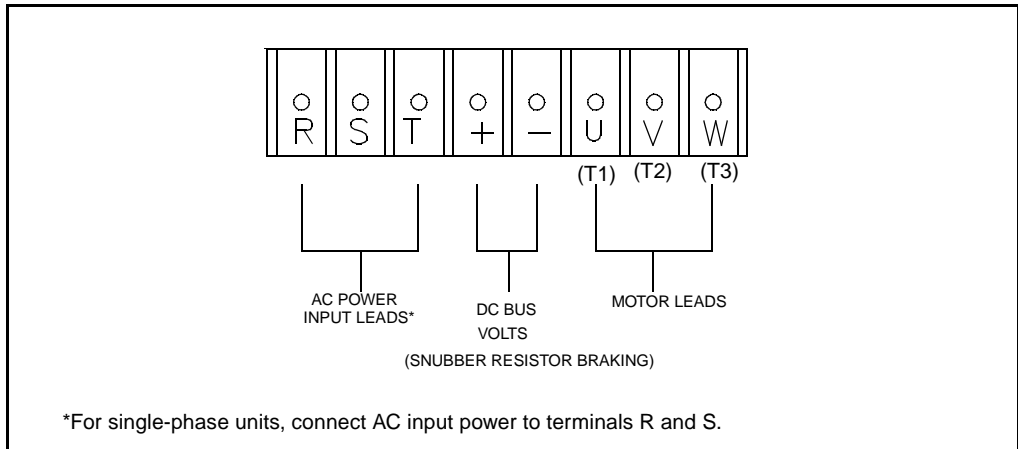

Figure 9.1 – DC Bus Terminals on Model 1SU1xxxx and 1SU2xxxx Drives
- Step 4. Measure the DC bus voltage at the DC bus power terminals with a multimeter while standing on a non-conductive surface and wearing insulated gloves (600V). See figures 9.1 to 9.3. Once the drive has been serviced, reattach the drive's cover and reapply input power.